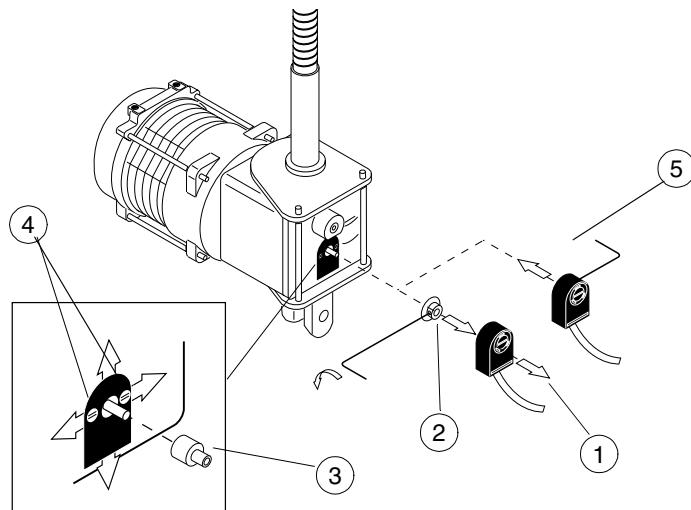

Figure H.28
- Pull the old sensor from the motor (Fig. H.28, 1). The base of the sensor and the pulse disk will remain on the motor. Remove the old pulse disk (Fig. H.28, 2).
- If the sensor base moved when the sensor was removed, check its position with a special tool (Fig. H.28, 3). Tighten the screws of the sensor base if needed (Fig. H.28, 4).
- Place the new sensor to the sensor base (Fig. H.28, 5). Fasten the sensor assembly with the Allen key which is in the new sensor. Check the sensor operation.